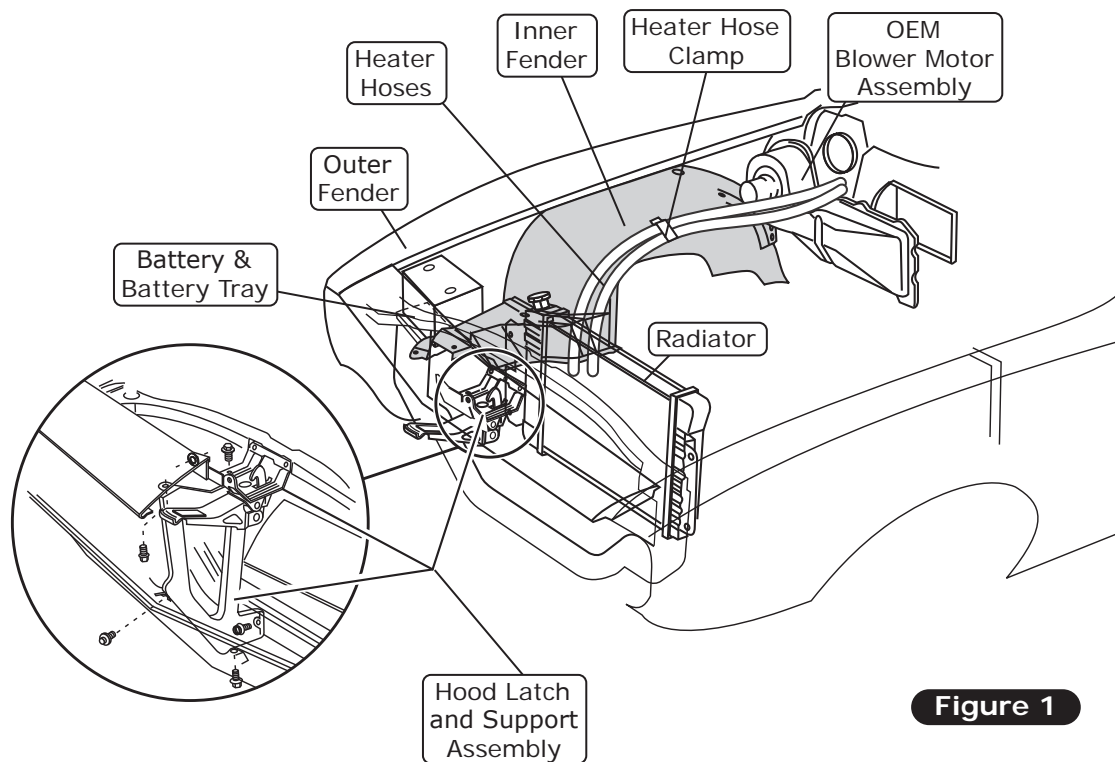

Figure 1
2. Remove the battery and battery tray (retain) (See Figure 1, below).
4. Remove the hood latch and hood latch support assembly (retain) (See Figure 1, below).
5. Remove the OEM heater hoses (discard) (See Figure 1, below).
6. Remove the OEM blower motor assembly (See Figure 1, below). **NOTE:** To remove the blower assembly (under hood) and the air distribution system (under dash), the factory manual recommends the following: Remove the right lower rocker molding. Remove the fender attaching bolts. Remove the skirt-to-fender and skirt-to-reinforcement screws. Pull out on the lower portion of the fender, moving the skirt away from the fender flange and firewall. Block the skirt with a 2" x 4" block of wood. To avoid damage to the paint and sheet metal, and for ease of removal and replacement of components, Vintage Air recommends that the right fender be removed, and the inner panel lowered. Removing the right front tire will provide easier access to the inner fender bolts.